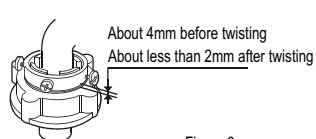

Figure 6
5. Install the drain outlet protecting cover to the other side, as indicated in Figure 6.
remark: Before installation, the threading is 4mm above the upper surface of the nut. After installation, the threading is 2mm above the upper surface of the nut. See to figure 6.